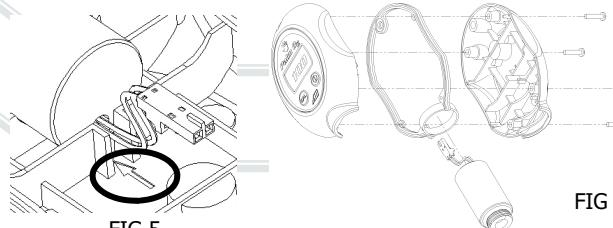
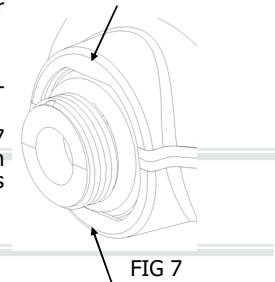

FIG 6
FIG 7
- (b) Insert the sensor into the molded collar, arrow FIG 6, and align the outer shoulder with the front edge of the collar.
3. The sensor is registered as shown in FIG 5 and FIG 7 and the connecting wires are not bent or bound when closing up the enclosure and tightening the Phillips screws, FIG 6.